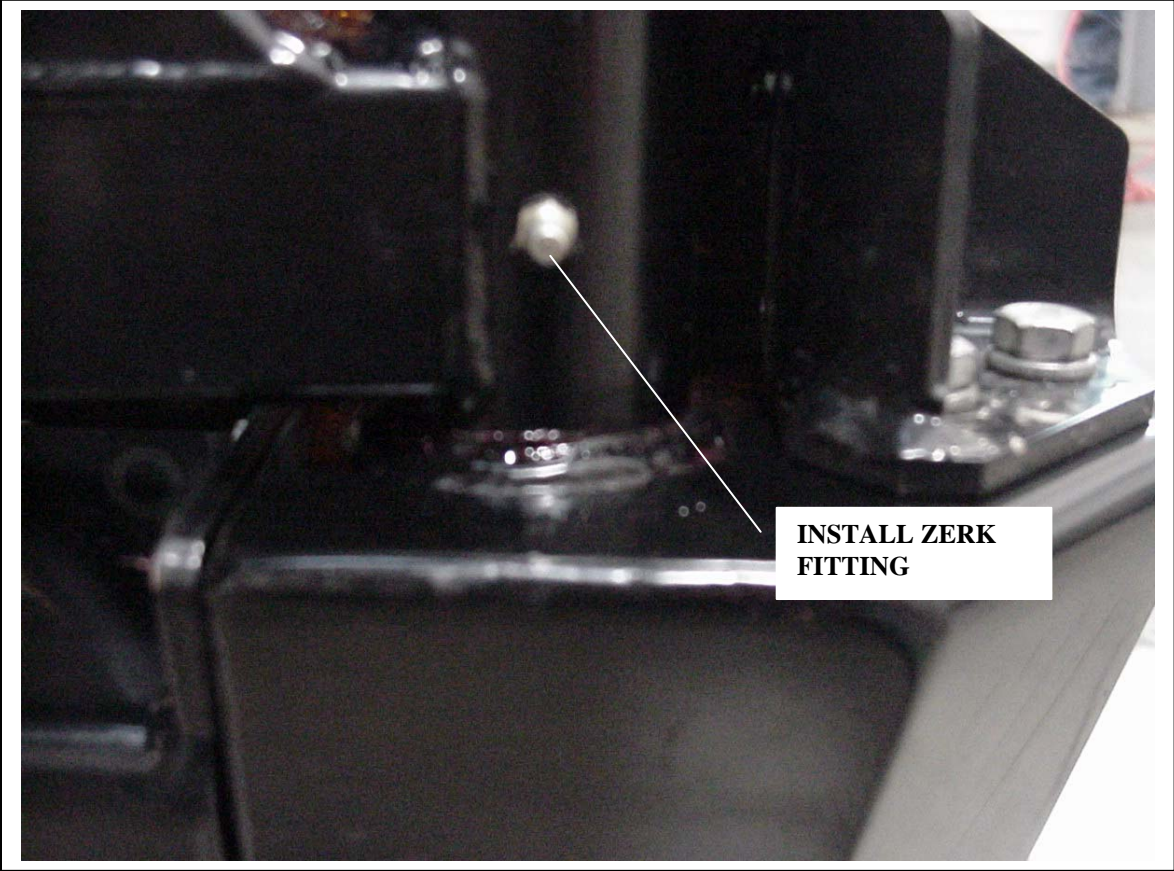

Figure 14, Zerk Fitting
16. Install the zerk fitting into the small pivot tube on tube assembly. Grease the pivot and re-torque periodically. **See Figure 14.**